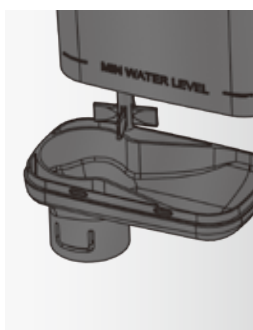

Fig. 7
- 3 Remove Impeller Cover** with a screwdriver using the slot provided (Fig. 7).